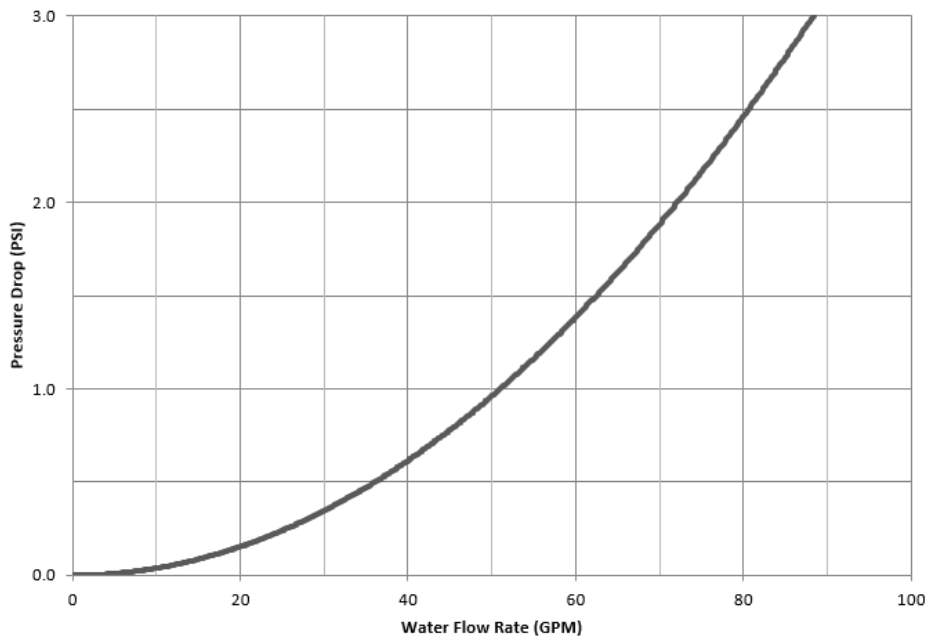

FIGURE 3 - TYPICAL WATER SIDE PRESSURE DROP
- Select secondary (system) pump(s) with sufficient total dynamic head for the pressure drop of the loop at design flow. See **Figure 3** for the boiler water pressure drop. This boiler will automatically perform a safe shutdown in the event of a low flow condition; however, proper design flow is required to deliver heat to the users and prevent nuisance lockouts.
- Install the dedicated boiler circulator on the inlet side of the boiler, pumping into the return connection. Select pump(s) with sufficient total dynamic head for the pressure drop of the loop at design flow. See **Figure 3** for the boiler water pressure drop.